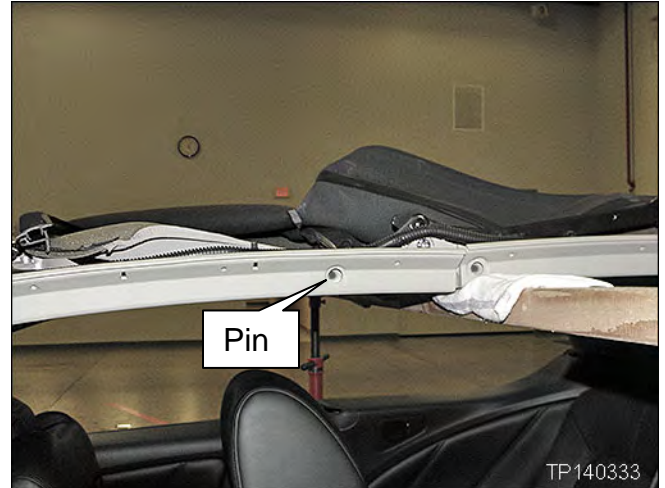

Figure A16
9. Remove the pin shown in Figure A16 as follows: